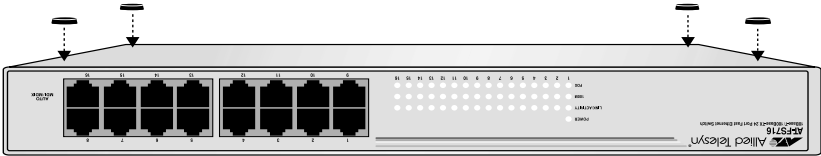

Figure 5 Attaching the Rubber Feet
2. Attach the four protective feet to the bottom of the unit. See Figure 5.